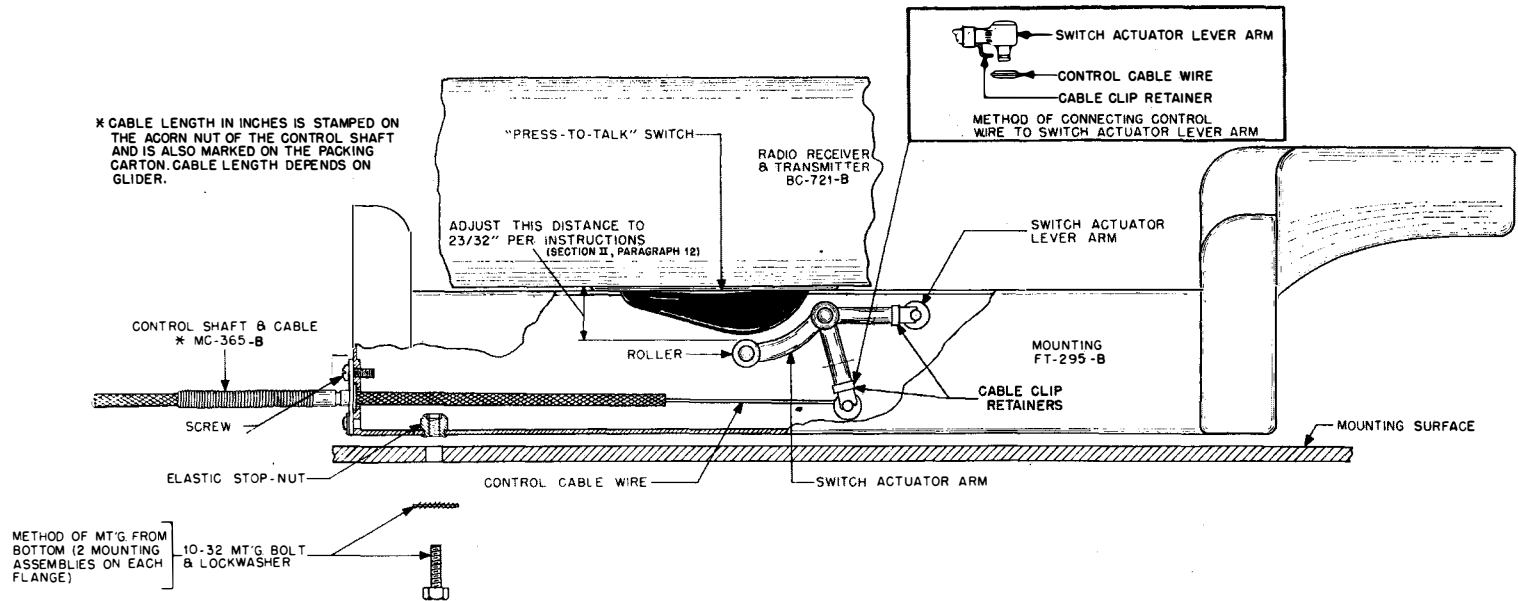
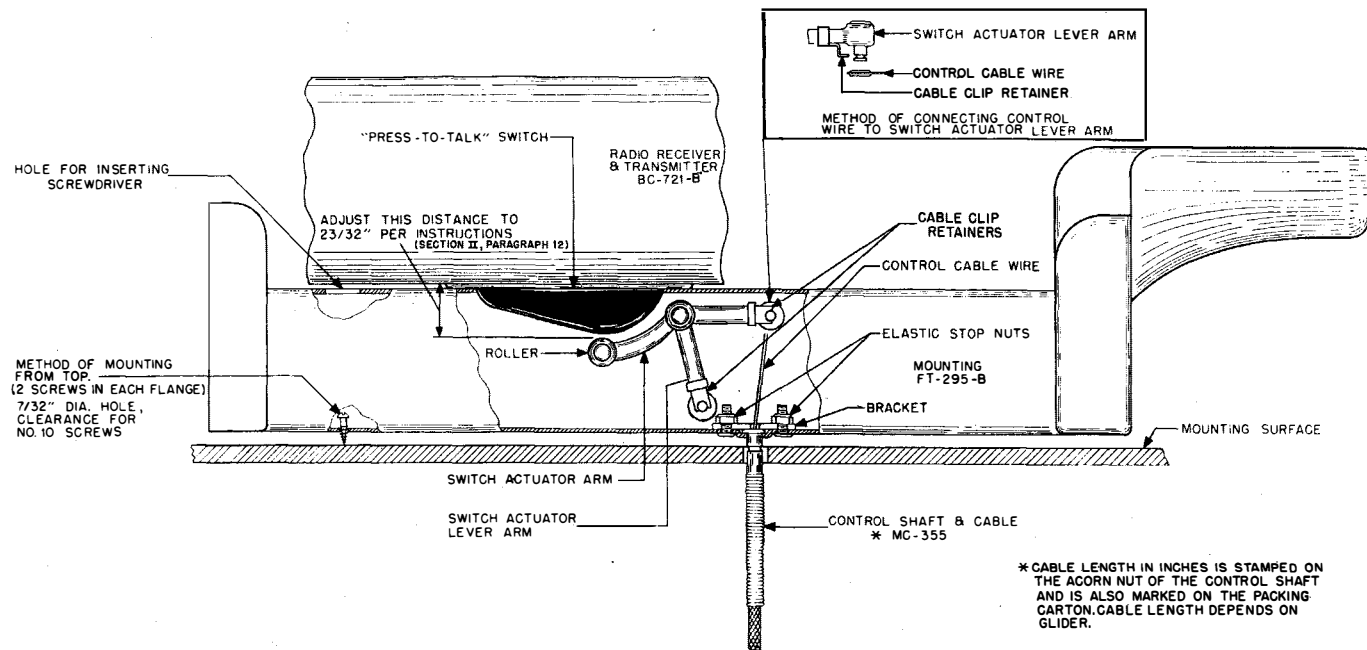

FIG. 9. CONTROL SHAFT MC-365-B, INSTALLATION, SHOWN IN END FASTENED POSITION
FIG. 10. CONTROL SHAFT MC-355, INSTALLATION, SHOWN IN BOTTOM FASTENED POSITION
7. MOUNTING FT-295-B.—Mounting FT-295-B should normally be located in a position in the glider so that it is accessible for quick removal of Radio Receiver and Transmitter BC-721-B. This condition does not apply to small two place training gliders. There are several locations where the mounting may be placed, and there are two methods of installing Mounting FT-295-B as shown in Figs. 9 and 10. The antenna lead-in should be *kept away* from all cables, the metal portion of the fuselage, and the personnel.
a. The first method, shown in Fig. 9, is used when it is possible to get underneath the structure supporting the mounting to insert the fastening screws. Elastic stop nuts are riveted to the fastening flange on Mounting FT-295-B and prevent loosening of the screws due to vibration.
b. When it is necessary to install Mounting FT-295-B against a solid object, or where there is very little space behind the mounting support, the second method, shown in Fig. 10, should be used. There is a large opening directly above the screw holes in the mounting, through which a screw driver may be inserted.
c. Refer to Fig. 9 if the end fastening method is used, or to Fig. 10 if the bottom fastening method is used. Place the eyelet of the Bowdin wire over the stud on the actuating arm of the lever and slide the retaining cable clip in position. See Fig. 8. Crimp this clip over the stud with a pair of pliers.
between the arm and top of Mounting FT-295-B. The distance should be $2\frac{3}{32}$ inches from the top. To increase the distance, turn counterclockwise. See Figs. 9, 10 and 11.